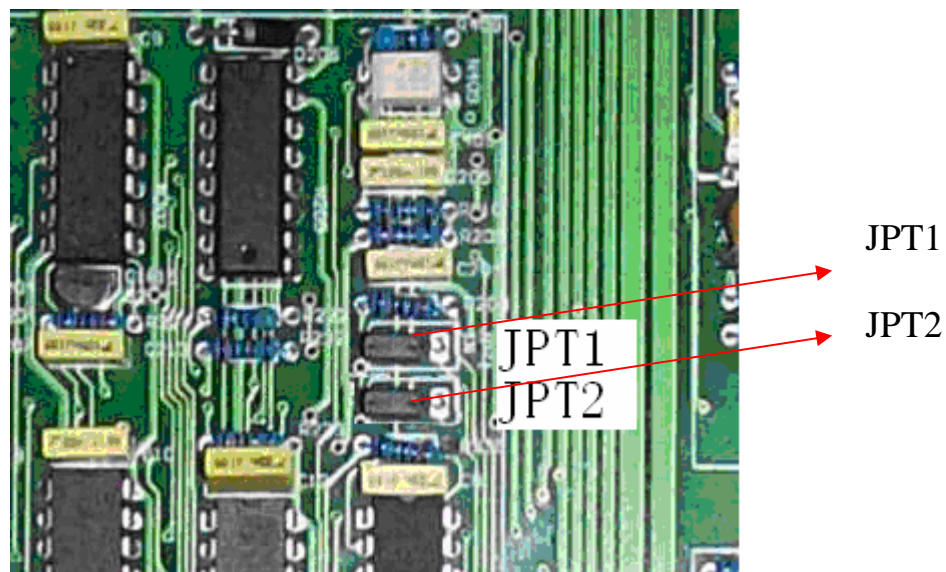

Figure 5: JPT1 Setting of Slip Wire
- E、 Connect the JPT2 on the controlling plate to PNP when you adopt the method of Torch Retaining Cap IHS. As Figure 5 shows(JPT1 was selected the mode of IHS ,JPT2 was selected the type of Proximity Switch)